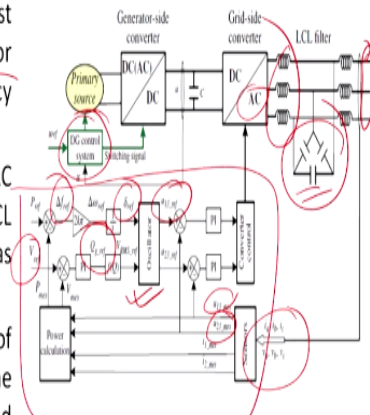

Fig.1: Power dispatching strategy of a gas microturbine for a VSI control.
- In order to generate AC voltages, AC capacitors are required and so an LCL filter is used for the grid connection as illustrated in Fig.1.